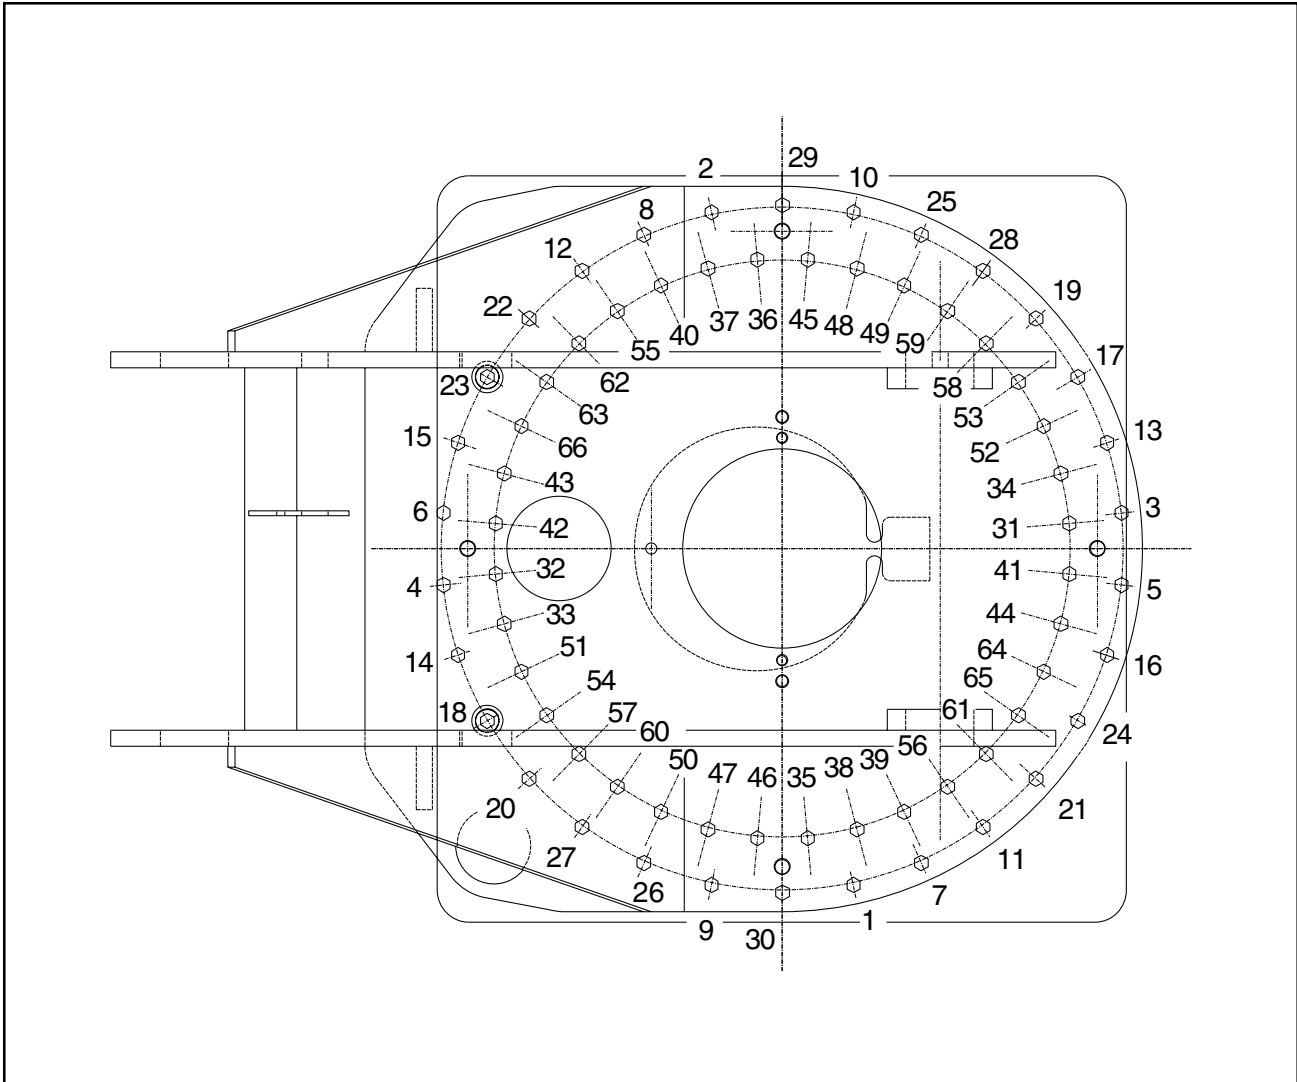

Figure 5-5. Bearing Bolt Tightening Sequence
2. Following sequence in Figure 5-5, tighten all bolts to 180 lb-ft. (244 Nm) in sequence.